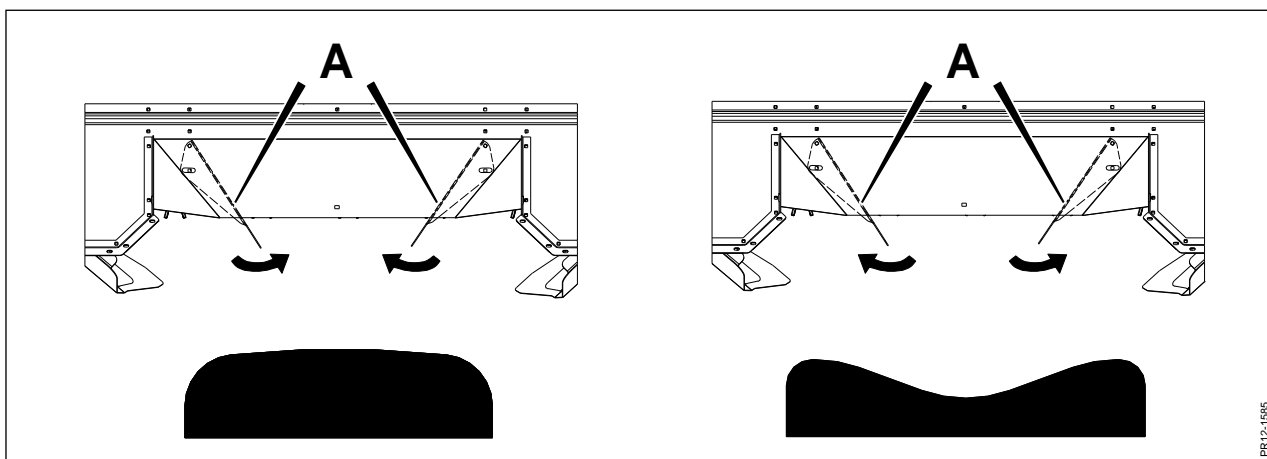

Fig. 3-14
**Fig. 3-14** 2 auxiliary swath guards **A** have been mounted at the middle of the machine. These are used for controlling the shape of the swath. The swath gets narrower and more square when reducing the distance between the guards and wider when increasing the distance.